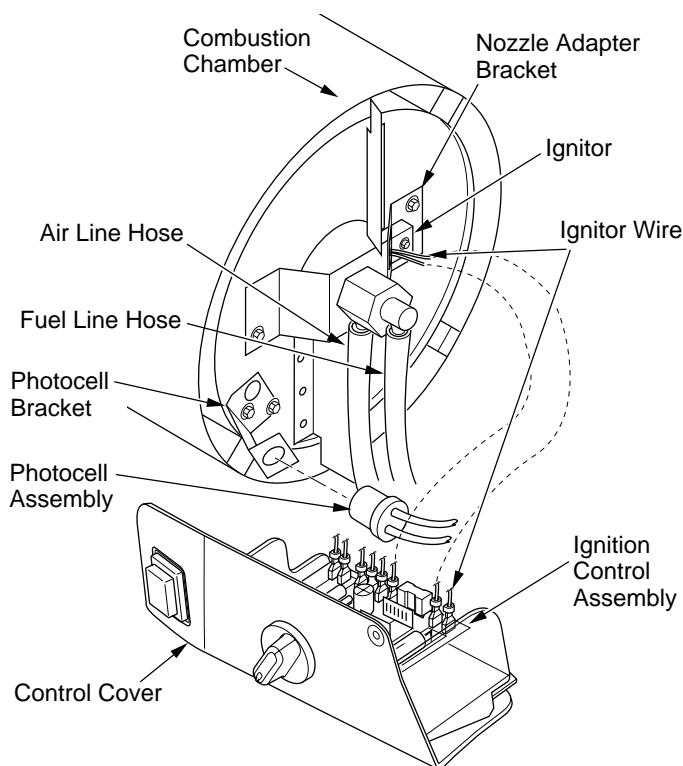

Figure 15 - Disconnecting Ignitor Wires from Ignition Control Assembly
4. Disconnect ignitor wires from ignition control assembly (see Figure 15). Pull the ignitor wires up through the hole in the lower shell.
5. Disconnect fuel line hose and air line hose. Remove photocell from photocell bracket (see Figure 15).
11. Route the ignitor wires back down through the hole in the lower shell. Connect wires to the ignition control assembly (see Figure 15).